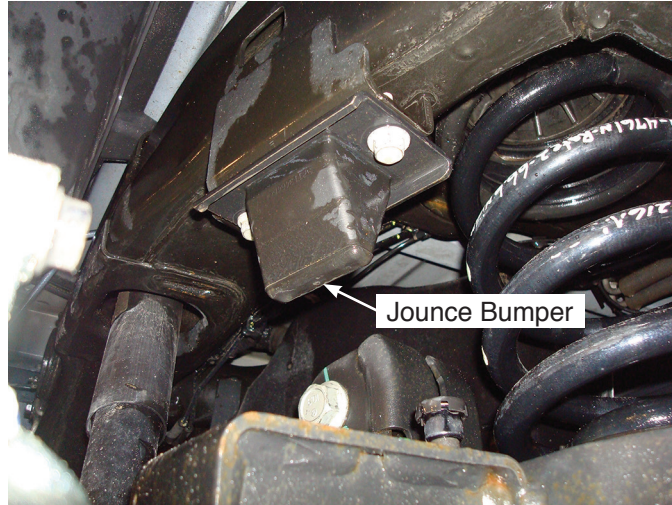

fig. 5
1. Remove the left and right side jounce bumpers (Figs. 5 & 6).